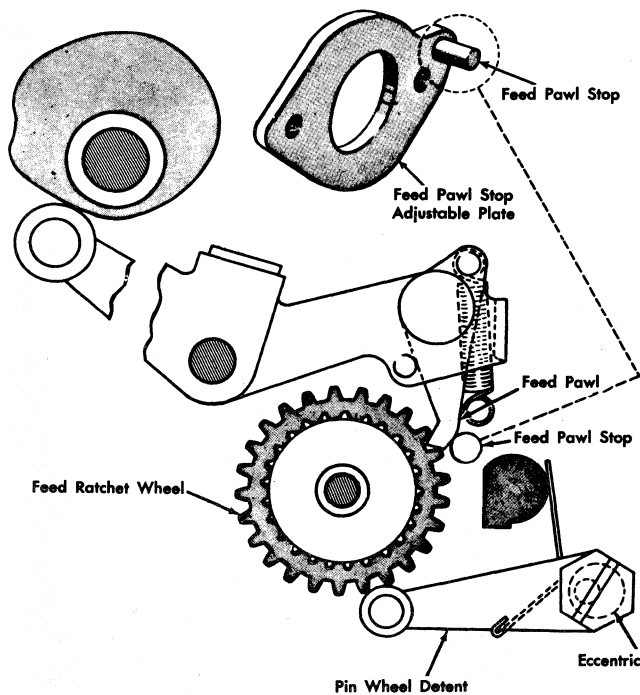

Figure 119. Tape Feed Adjustment
1. Position a tape (punched in good registration) so that holes in tape are concentric with reader pins. Tape may be positioned laterally by pin wheel detent eccentric (Figure 119). Tape may be positioned vertically on initial production machines by adjustable tape guide arm and
2. Adjust feed pawl stop plate (Figure 119) so that feed ratchet wheel advances just one full tooth with no overthrow.